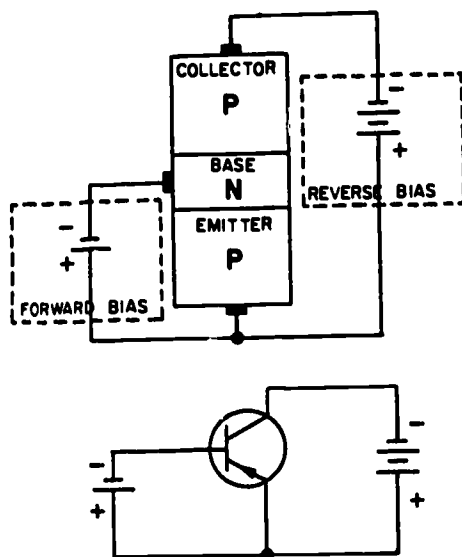

Fig 2-11. A properly biased PNP transistor.
The PNP transistor works essentially the same as the NPN transistor. However, since the emitter, base, and collector in the PNP transistor are made of materials that are different from those used in the NPN transistor, different current carriers flow in the PNP unit. The majority current carriers in the PNP transistor are holes. This is in contrast to the NPN transistor where the majority current carriers are electrons. In order to support this different type of current (hole flow), the bias batteries are reversed for the PNP transistor. A typical bias setup for the PNP transistor is shown in figure 2-11. Notice that the procedure used earlier to properly bias the NPN transistor also applies here to the PNP transistor. The first letter (P) in the PNP sequence indicates the polarity of the voltage required for the emitter (positive), and the second letter (N) indicates the polarity of the base voltage (negative). Since the base-collector junction is always reverse biased, then the opposite polarity voltage (negative) must be used for the collector. Thus, the base of the PNP transistor must be negative with respect to the emitter, and the collector must be more